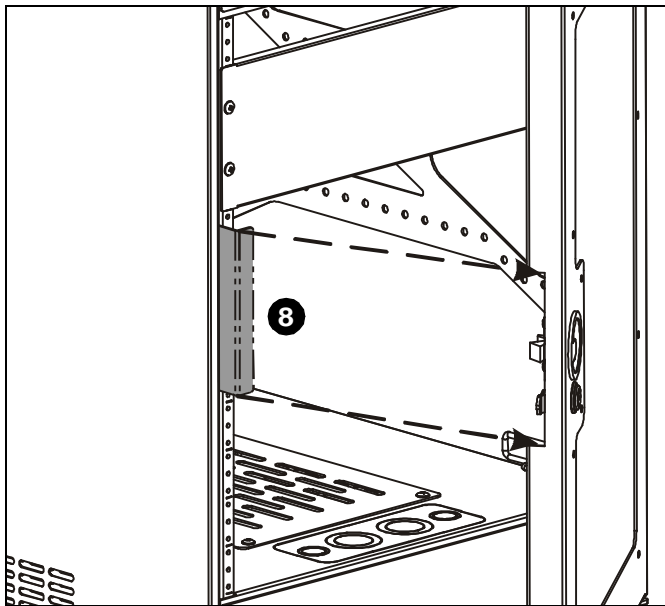

Figure 6
8. Determine location for door catch (B) by matching up handle cut-out in door with correct position on rack. (See Figure 6)